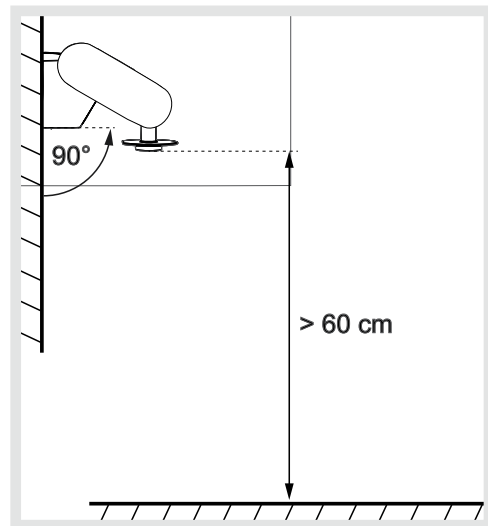
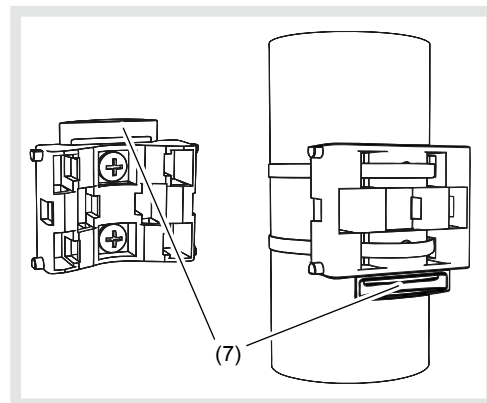

Figure 2
Figure 5: Wall fixing (left) or mast fixing (right)
- Install on vertical walls (figure 2) or on a mast (figure 5, right)
- In the case of wall mounting, the smooth side lies against the wall and the crescent-shaped bar (7) is at the top (figure 5, left).
- In the case of mast mounting, the curved side lies against the mast and the crescent-shaped bar (7) is at the bottom (figure 5, right).